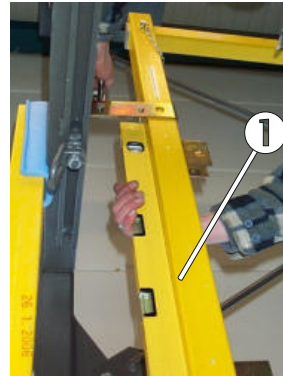

Fig. 91: Aligning the rail stanchions
The upper front vertical rail stanchions must be parallel to the shaft wall, and each must be attached using a wall anchor (fig. 91 and fig. 92/pos. 1).